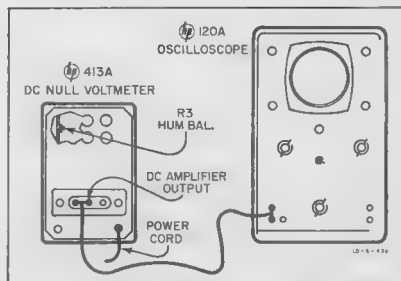

Figure 5-6. Hum Balance Test Setup
- Connect oscilloscope to the dc amplifier output connector as shown in figure 5-6.